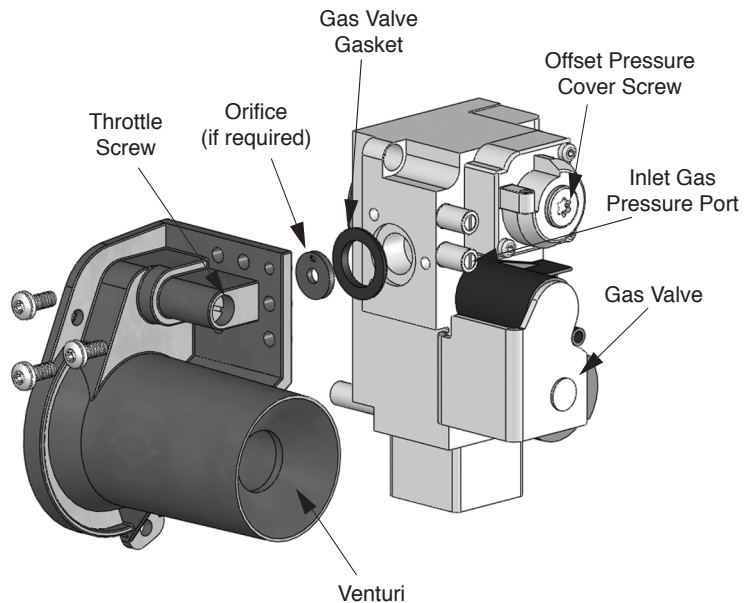
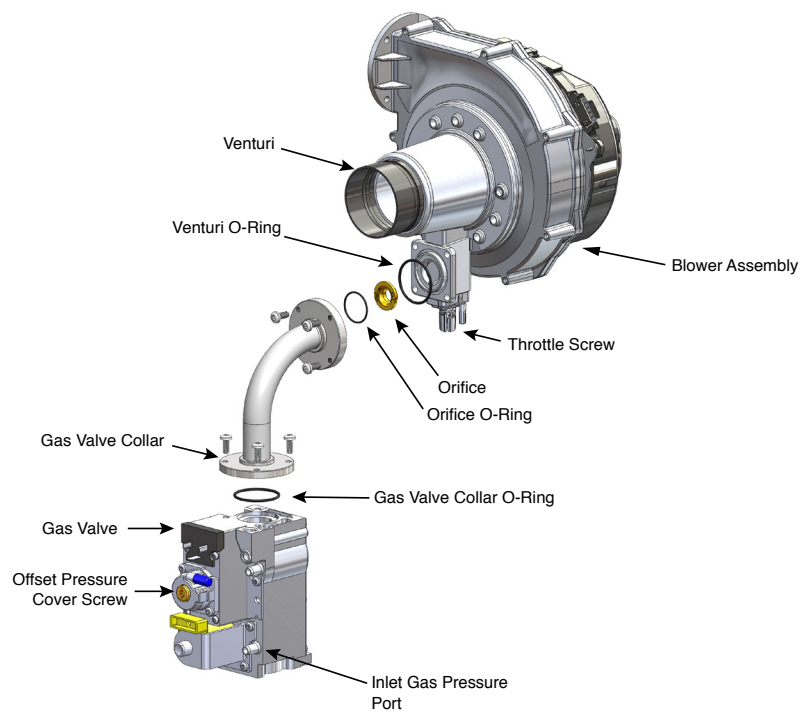

Fig. 17 - Gas Valve / Venturi Assembly - GALLANT 250
Fig. 16 - Gas Valve / Venturi Assembly - GALLANT 299/399
- Prior to start up, ensure the unit is set to fire propane. Check the rating label for the type of fuel. Check the gas valve for propane conversion label. If there is a conflict or doubt on the burner set up, remove the gas valve and check for the propane orifice, see Fig. 16 or Fig. 17 on page 30 or Fig. 16 on page 30.